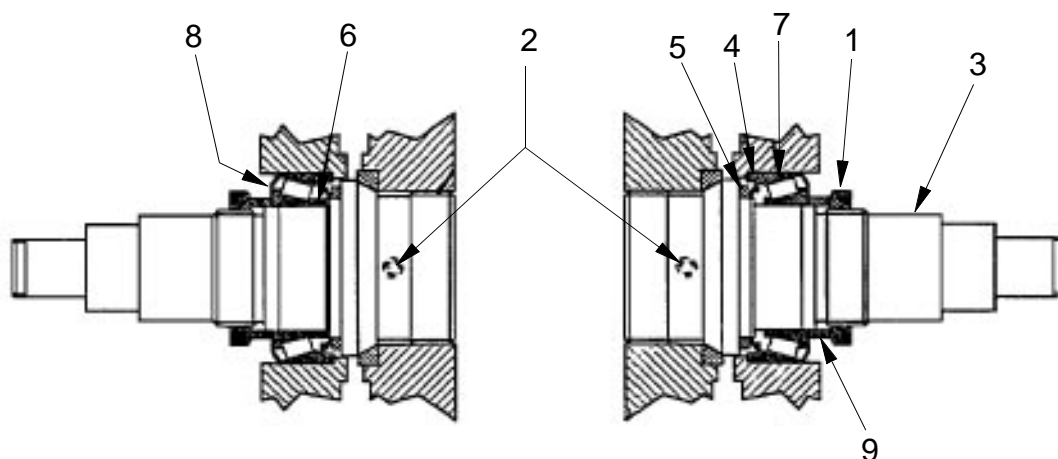

Figure 5 Joint axes 2 and 3.
5. Remove the KM nut (1) on each shaft. See Figure 5.
6. Remove the stop screws (2) in the lower arm. See Figure 5.
7. Unscrew the shafts (3). The bearing is pressed out with the shaft. See Figure 5.
NOTE! Mount the left side first, complete, robot seen from behind! See Figure 5.